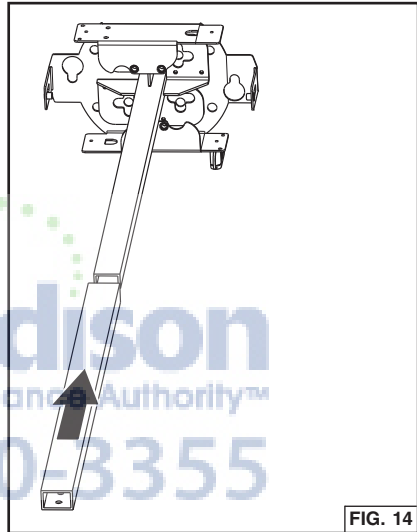

FIG. 14
6. Insert lower telescopic arm (see Fig. 14.) and adjust length to the height as shown in the table above.